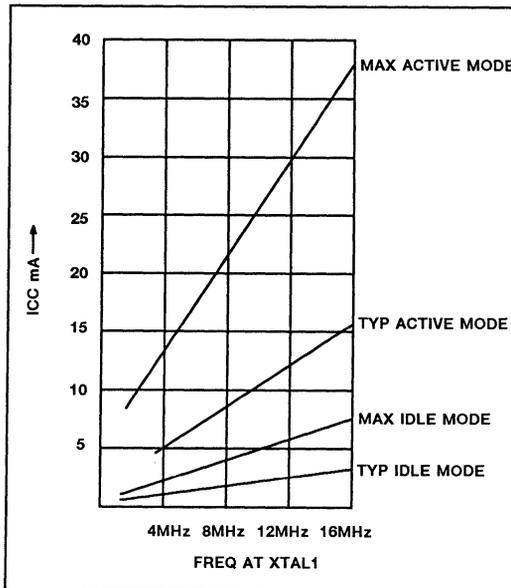

Figure 8.  $I_{CC}$  vs. FREQ
- See Figures 8 through 11 for ICC test conditions.